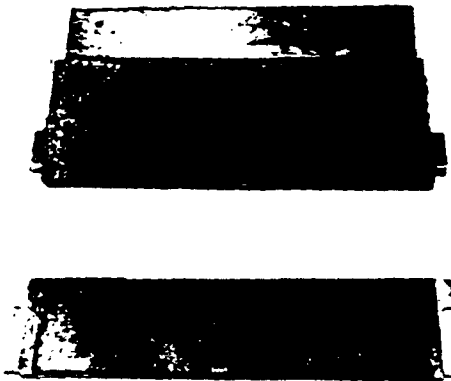

FIG. 8
3. Place insulation in front and rear cover plates. Install two (2) #10 x 3/4" sheet metal screws in rear plate to retain insulation (see Figure 8).